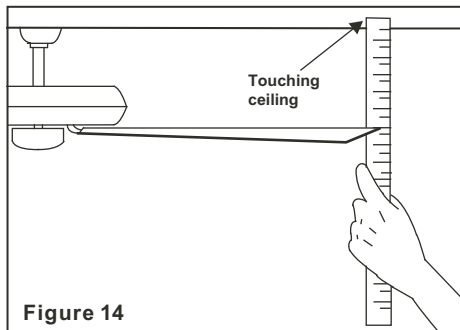

Figure 14
2. Most fan wobbling problems are caused when blade levels are unequal. Check this level by selecting a point on the ceiling above the tip of one of the blades. Measure this distance as shown in Figure 14. Rotate the fan until the next blade is positioned for measurement. Repeat for each blade. The distance deviation should be equal within 1/8".